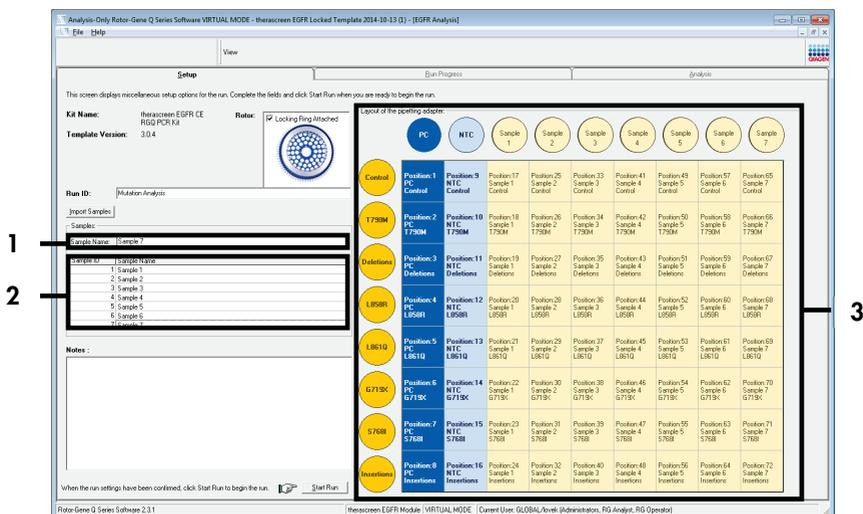

Figure 13. Entering additional sample names in the “Sample Name” field. 1 = “Sample Name” field; 2 = “Sample List”; 3 = “Layout of the pipetting adaptor” panel.
15. Repeat step 14 to enter the names of all additional samples (Figure 13).